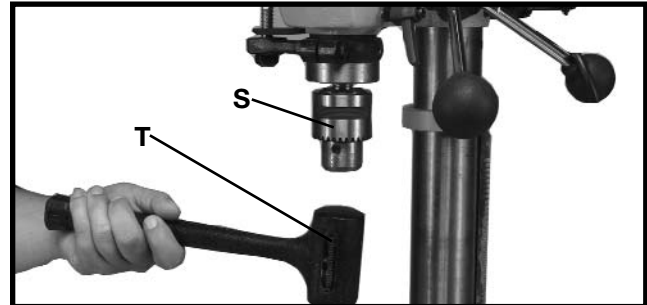

Fig. 16
11. **IMPORTANT:** Open the chuck jaws as wide as possible by turning the chuck sleeve (S) Fig. 16.
12. Holding chuck on taper of spindle, tap with a soft tip hammer (T) or a block of wood and hammer to set chuck, as shown in Fig. 16.